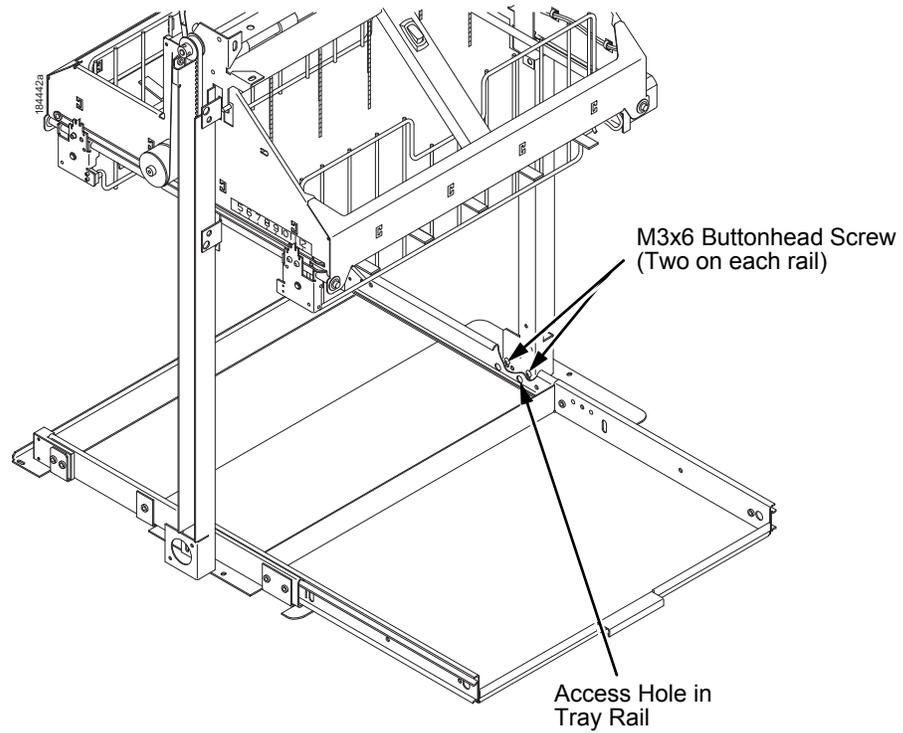

Figure 16. The Lower Screws in the Vertical Rails
9. Pull the paper tray out until the holes in the rails permit access to the M3 buttonhead screws. (Figure 16.)
10. Loosen one turn—do not remove—the M3 screws securing the vertical rails to the stacker base. Each rail is secured by two screws. (Figure 16.)
29. Pull the paper tray out until the holes in the rails permit access to the M3x6 screws. Tighten the M3 screws securing the vertical rails to the stacker base. Each rail is secured by two screws. (Figure 16.)